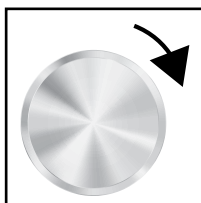

Figure 4.2
2. Rotate the handle to the right (clockwise) to open the door (Figures 4.2 & 4.3).